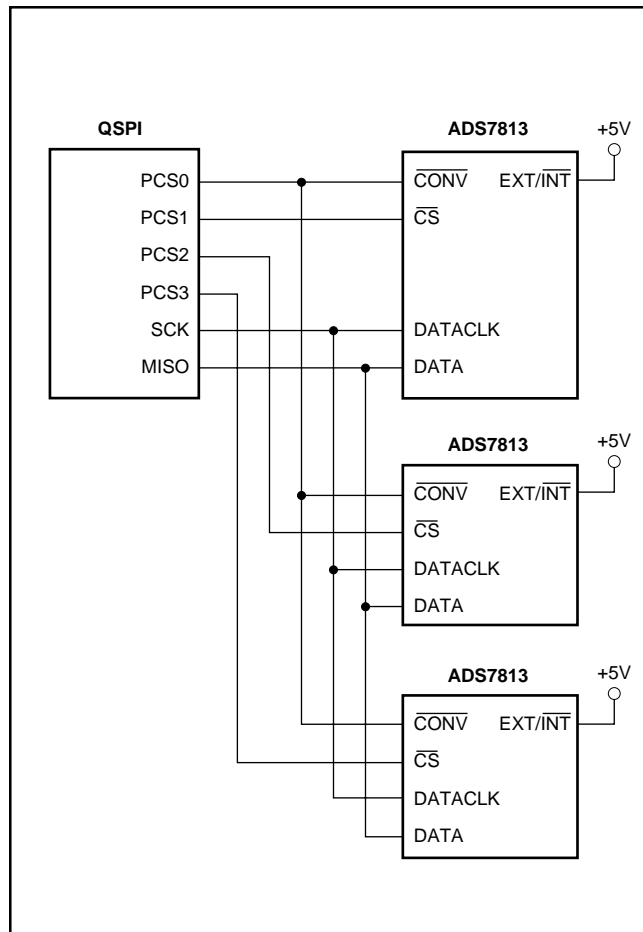

FIGURE 16. QSPI Interface to Three ADS7813s.
Figure 16 shows a QSPI-equipped microcontroller interfacing to three ADS7813s. There are many possible variations to this interface scheme. As shown, the QSPI port produces a common  $\overline{\text{CONV}}$  signal which initiates a conversion on all three converters. After the conversions are finished, each result is transferred in turn. The QSPI port is completely programmable to handle the timing and transfers without processor intervention. If the  $\overline{\text{CONV}}$  signal is generated in this way, it should be possible to make both AC and DC measurements with the ADS7813, as the  $\overline{\text{CONV}}$  signal will have low jitter. Note that if the  $\overline{\text{CONV}}$  signal is generated via software commands, it will have a good deal of jitter and only low frequency (DC) measurements can be made.